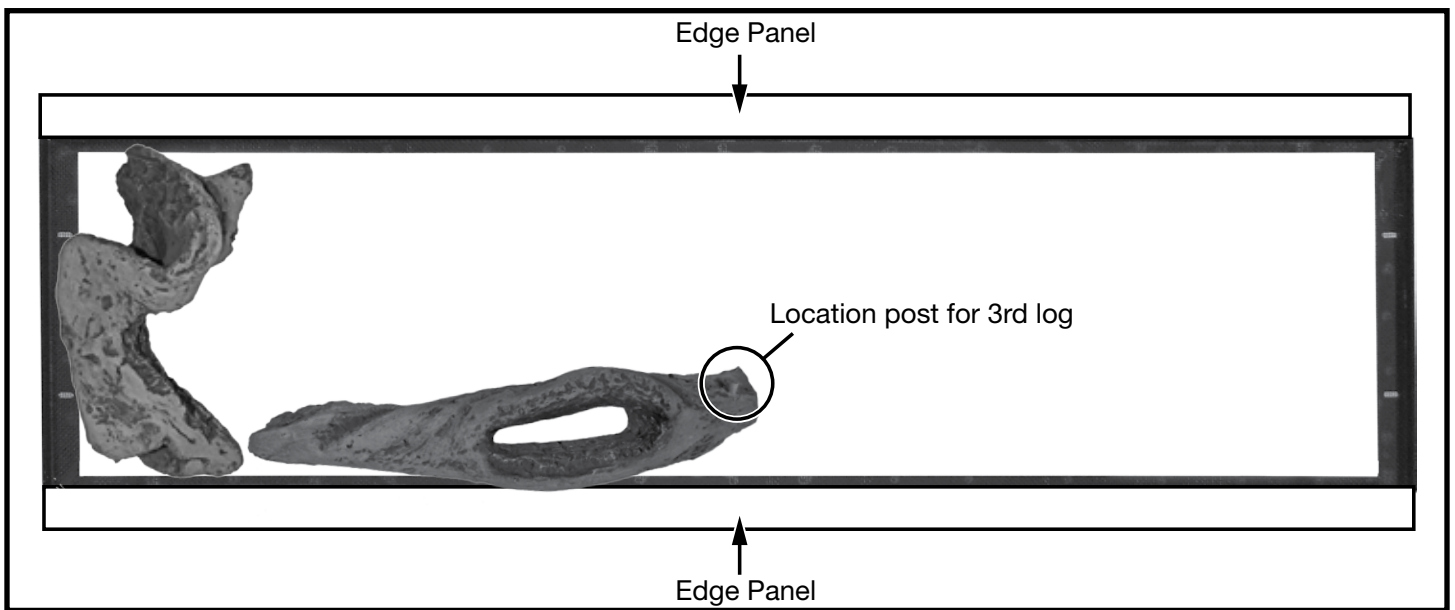

Figure 39: Log 2 placement.
- Place the 2nd log so that the middle of it overhangs the tray itself and rests on the edge panel as shown in Figure 39. Note that there is a location post for the 3rd log at one end of the 2nd log. This location post should have a vertical alignment.